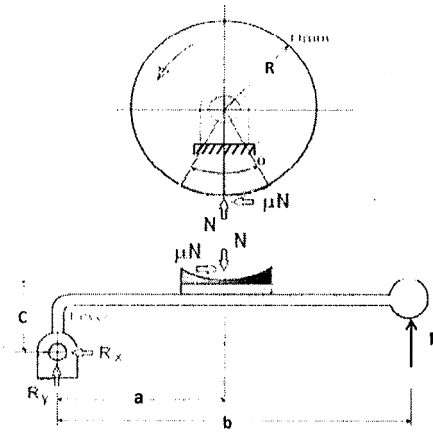

Fig. Q5b
- (b) For a single block brake (Fig. Q5b) following are some input data: i) torque capacity = 35 Nm, ii) $R = 400$ mm, iii) $a = 250$ mm, iv) $b = 550$ mm, v) $c = 80$ mm, vi) friction coefficient of lining with steel drum = 0.4 and vii) $\theta = 14.36^\circ$. If the width of lining is equal to its length, determine i) dimensions of the block, ii) actuating force P , iii) resultant reaction at hinge and iv) rate of heat generated for brake drum rotation of 100 rpm. [8]